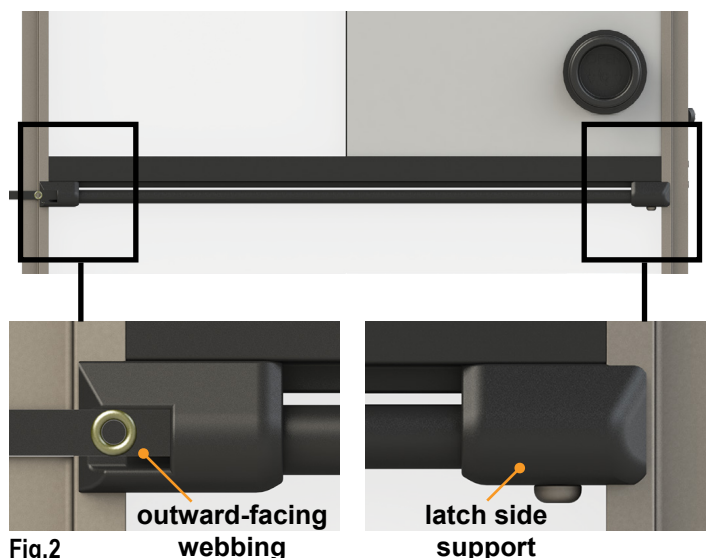

Fig.2
3. Place the Screen Shot directly underneath the push bar and insert the latch side support into the channel (Fig.2).
4. Hold the latch side in place. With the other hand, insert the hinge side support by sliding the Screen Shot up the channel with the webbing facing outward (Fig.2).